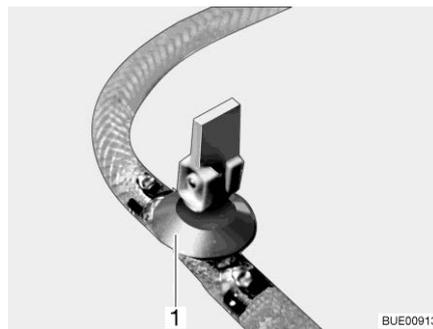

Fig. 220 Drain cock
- Close the drain cock(s). Position the rocking lever (Fig. 220,1) horizontally.
- Open drain cock(s) (Fig. 220). To do so, set the rocking lever (Fig. 220,1) in a vertical position. The boiler is drained to the outside.